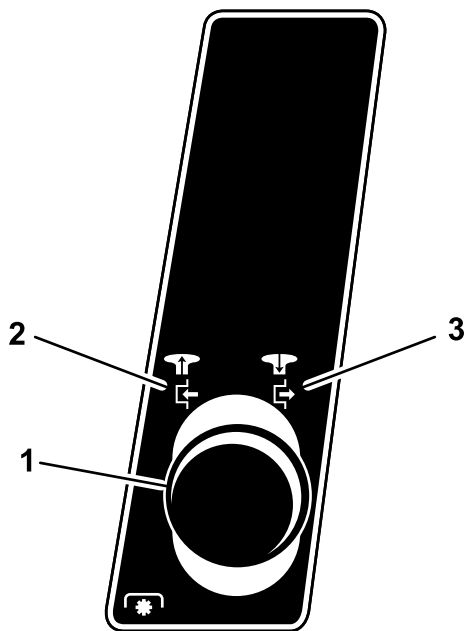

Figure 12
4. Disengage the blades (PTO). Refer to Figure 12.